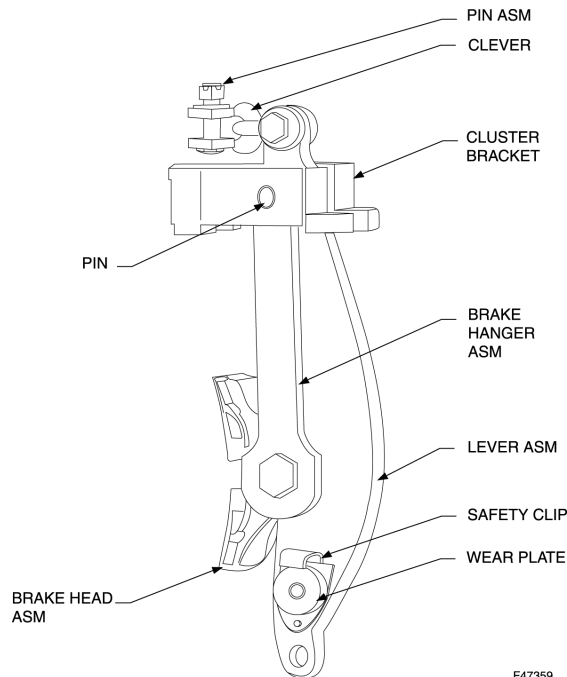

Figure 56 – Brake Lever Assembly – Live
1. Assemble Brake Lever Assembly - Live as shown in Figure 56.